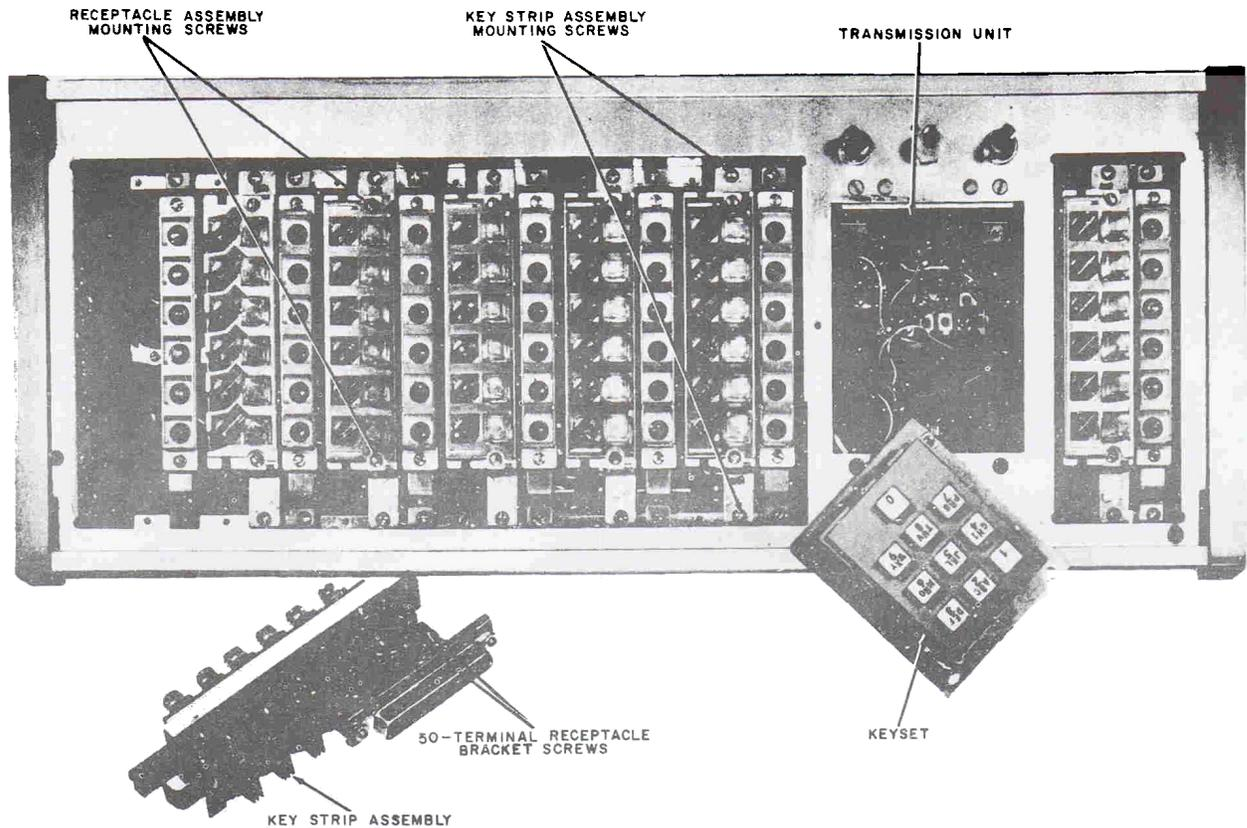

Figure 4. Attendant Turret, Showing Keystrip Assembly and Keypad Removed.
2.05 After removal of the face plates, each key strip assembly may be individually removed by loosening the two mounting screws at the extreme top and bottom of each unit. With screws loosened, carefully lift up on the assembly to unplug it before attempting to lift it out of the turret. See Figure 4.